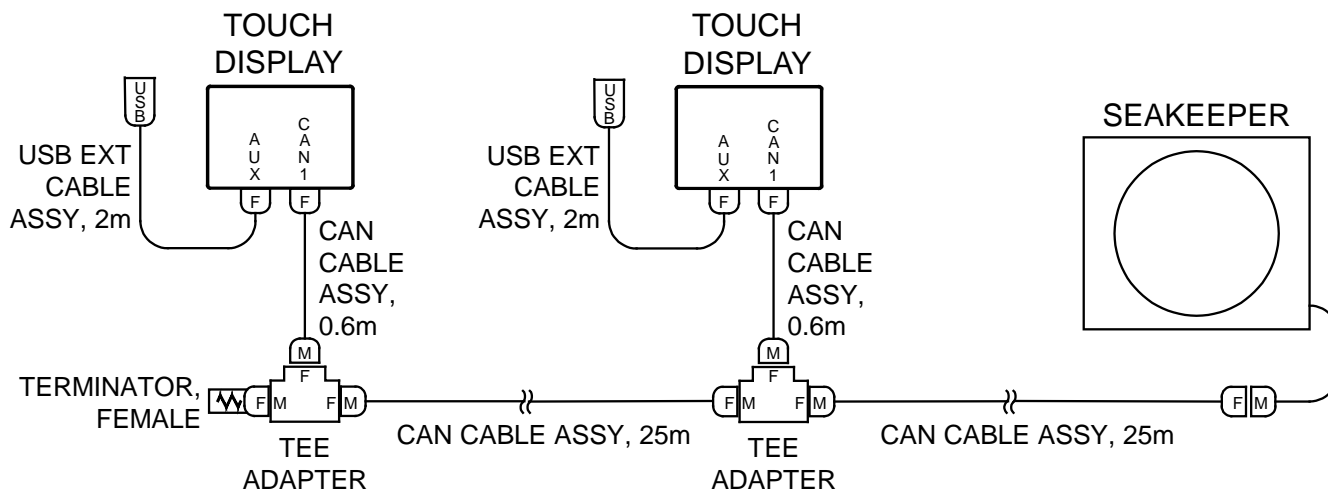

FIGURE 10 – CABLING FOR 2 OPERATOR STATIONS
- a. Figure 10 below shows the entire serial communications link for 2 Operator Stations. The Terminator must be installed on the Tee Adapter farthest from the Seakeeper.